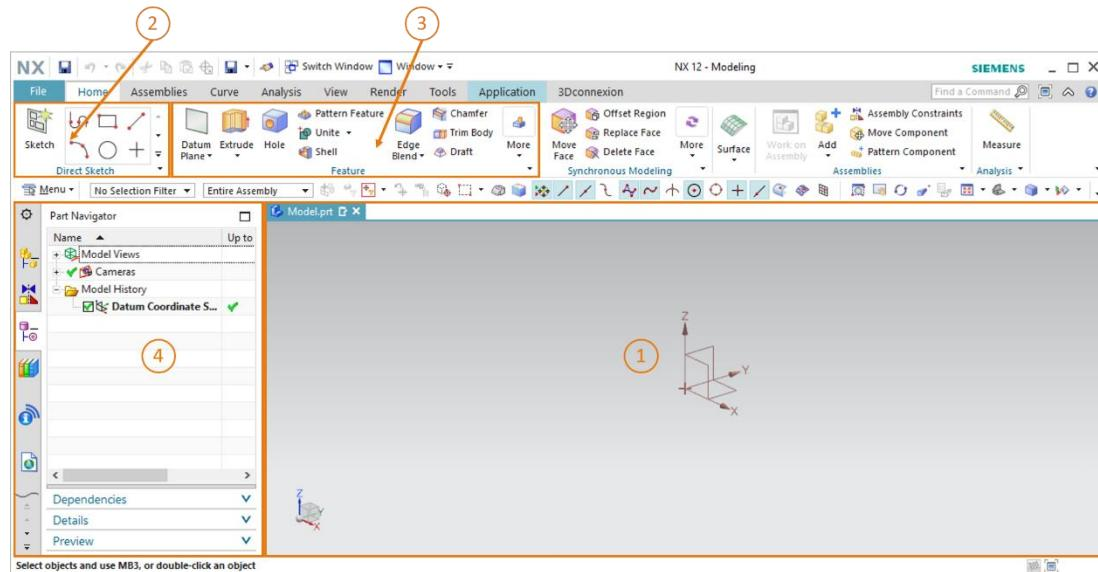

Figure 3: "Modeling" application in NX with markings for explanations of the areas in the text
In NX, the complete modeling is carried out in the "Modeling" application, as shown in Figure 3.
- The central screen (see Figure 3, area 1) contains the three-dimensional graphics window. Here, all the needed modeling steps are performed in both two-dimensional and three-dimensional space.
- The left part of the menu bar (see Figure 3, area 2) contains all the tools needed to prepare two-dimensional sketches.
- The center part of the menu bar (see Figure 3, area 3) lists all the form elements. For one thing, these allow you to create three-dimensional models from two-dimensional sketches. They also allow you to further model three-dimensional models, for example by rounding edges.
- The Resource bar (see Figure 3, area 4) can display the model history for the purpose of tracking the modeling steps performed. In the case of an assembly, the various individual components can also be listed here.